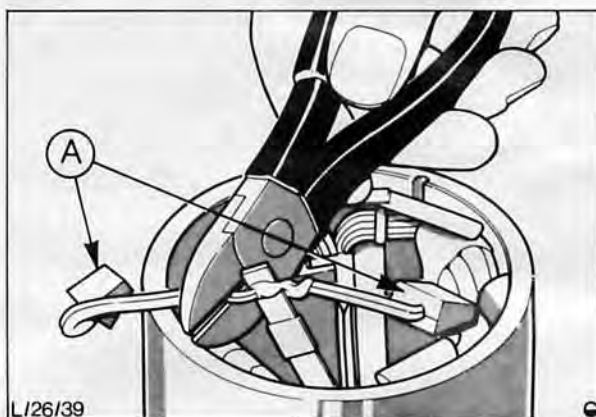

Fig. 83. Be sure to cut braiding in correct place
5. To replace brushes on existing field coil, cut copper braiding of field coil brushes to leave about 6 mm (0,25 in) of braiding on either side of terminal, Fig. 83, Solder new brush leads to remaining braiding, ensuring that long and short leads are fitted correct way round. Replace end plate brushes complete with a new input terminal and rubber grommet. Brushes should move freely in brush box moulding. Sticking brushes can be eased by cleaning with a petrol moistened cloth.